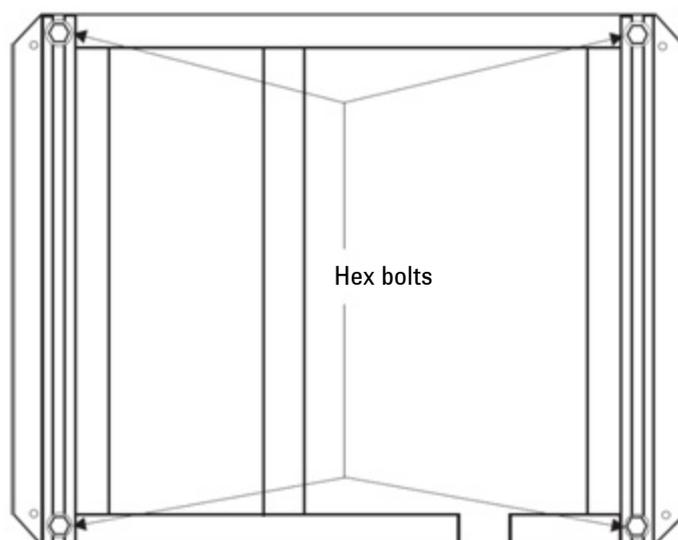

Figure 1. AA packing crate (viewed from the top) showing the location of the four hex head bolts
- 5 The instrument is held in position at the base by four retainer clips, one in each corner (as shown in Figure 1), which are connected to two metal brackets. These brackets are in turn secured to the base of the packing crate. To release the instrument from the packaging: